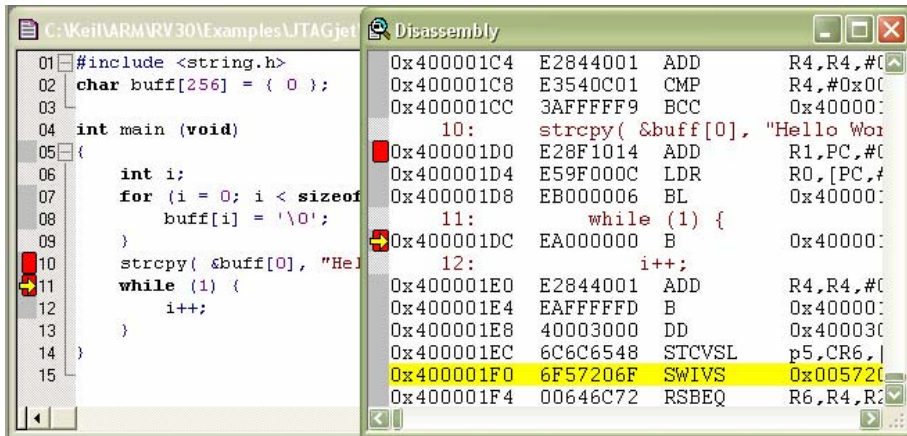

FIGURE 31 The application was executed until the breakpoint set at line 11 of the main.c module.
5. From the View menu, open the Memory window. The window appears at bottom of the main IDE window. Set the address of the Memory window to `buff` (global variable). This will position the window to show the memory area occupied by the `buff[]` variable. The buffer should be filled with zeros (Figure 31). The same variable can be also inspected in a Watch window.